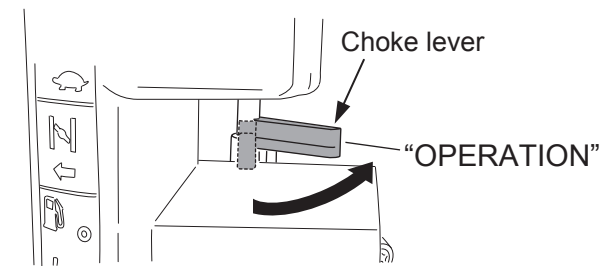

Fig. 12
- 7 After the engine has started, while you hear some explosion loud noise, gradually move back the choke lever until it is wide open. (Fig.12)